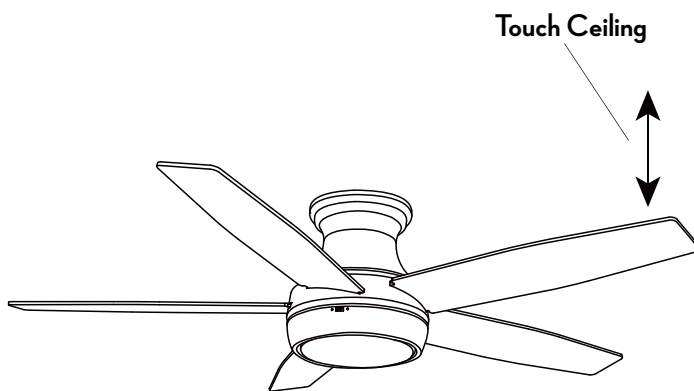

Figure 12
- Most fan wobble problems are caused when blade levels are unequal. Check this level by measuring the distance from the tip of one blade to the ceiling as shown in Figure 12.
Excessive Wobbling.	<ul style="list-style-type: none">□ Make sure that screws which attach fan blade holders to motor are fastened and tightened.□ Tighten screws of fan blade to blade holder securely.□ Ensure that canopy and mounting bracket are tightened securely to ceiling joist.□ Check by selecting a point on the ceiling above the tip of one of the blades. Measure this distance and ensure all blades are even (see Fig. 12).